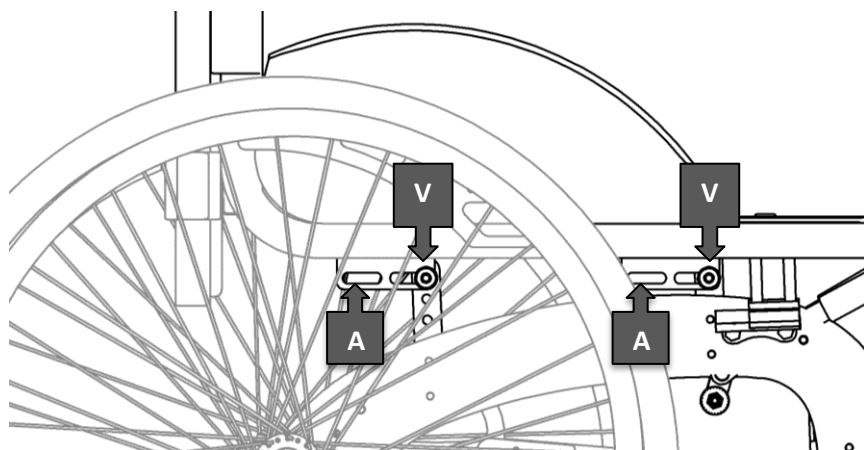

Figure 4
To adjust the seat position, unscrew the screw (V) shown in Figure 4. There are two screws on the right side of the wheelchair and two screws on the left side.
If necessary, remove screws and put them back in the adjacent slot (A) (see Figure 4).